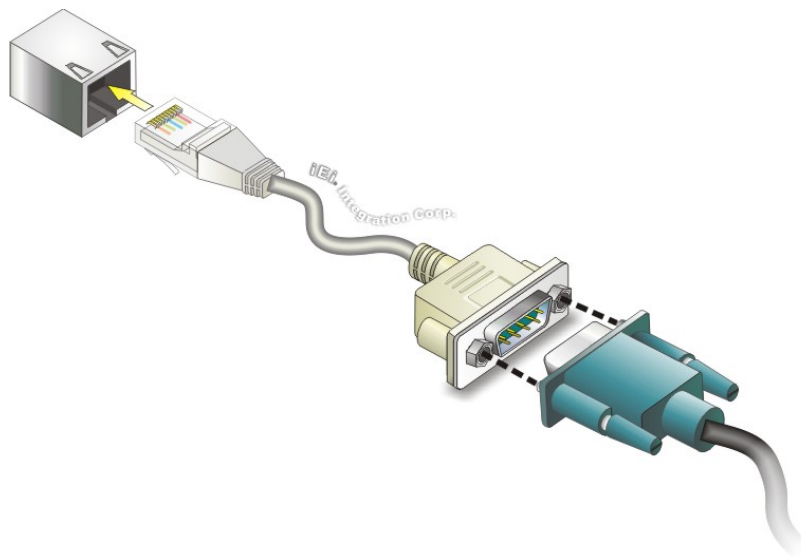

Figure 3-19: Serial Device Connector
Step 2: Insert the RJ-45 to D-sub 9 cable. See **Figure 3-19**.